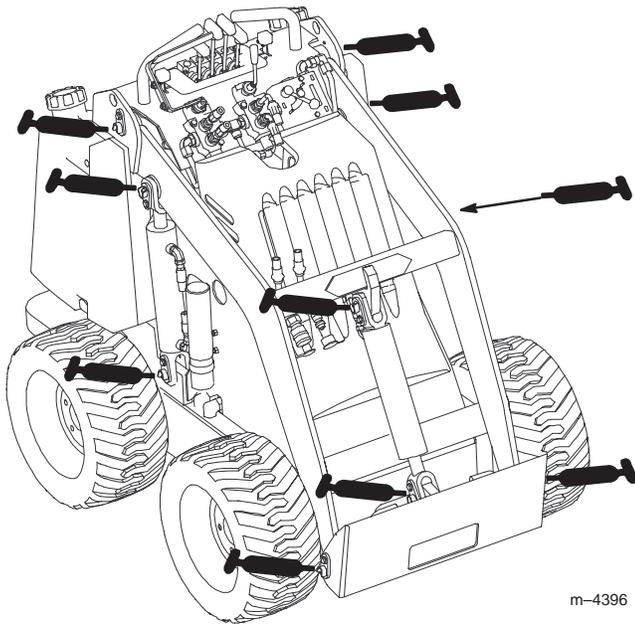

Figure 18
- Connect a grease gun to each fitting (Fig. 18 and 19).